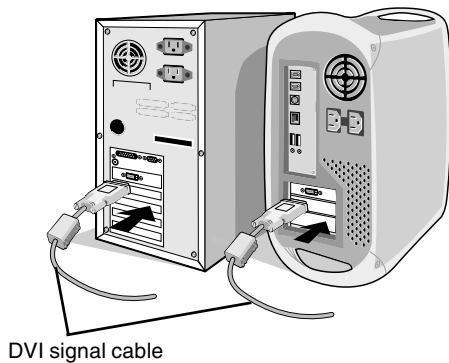

Figure A.1
2. **For the PC or MAC with DVI digital output:** Connect the DVI signal cable to the connector of the display card in your system (**Figure A.1**). Tighten all screws.